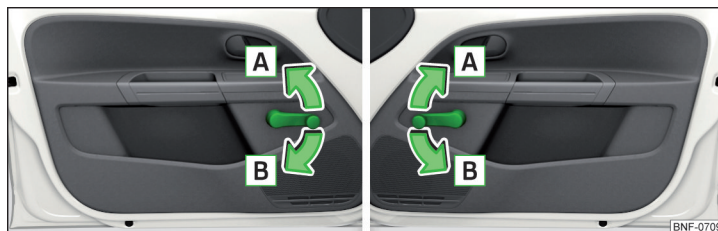

Fig. 32 Window operation: left / right
- ▶ To **open**, turn the crank in the direction of arrow **A** » Fig. 32.